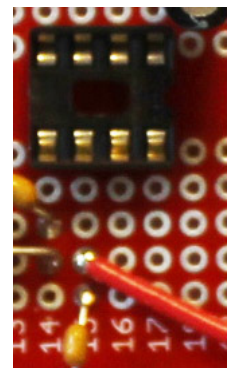

Figure 14
14. Prepare a 5 inch long stranded red wire (22 AWG). Strip one end and solder it to hole b15 (see Figure 14).